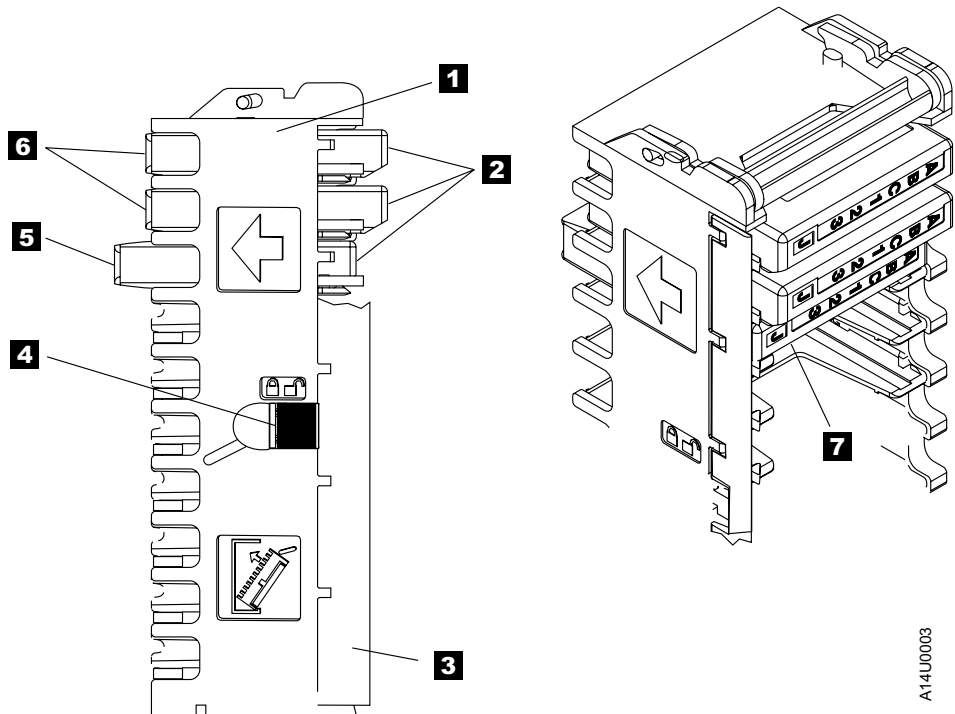

Figure 14. Left View of the 3590 Magazine Cartridge Positions
The magazine has two cartridge storage positions as shown in Figure 14 on page 52. They are the *import* and the *export* positions. A cartridge is in the import position when the cartridge is inserted into the operator side (see item **10**) of the magazine. You must insert the cartridge past the first detent, thus allowing the cartridge to stop on the second detent. This procedure places the leader block end of the cartridge closest to the machine side (see item **4**) of the magazine.
Figure 14 shows a partially loaded magazine. The magazine (see item **1**) includes two cartridge positions.
3. Cartridges are inserted into the magazine from the door side (see item **3**) of Figure 14.
Note: The magazine cartridge lock **4** in Figure 14 on page 52 must be in the unlocked position before you insert or remove cartridges from the magazine. The door **3** of the magazine **1** will be damaged if cartridges are moved with the magazine lock in the locked position.
Note: Always engage the magazine lock **4** (Figure 14 on page 52) before you transport a loaded magazine to avoid dropping the cartridges or shifting their position in the magazine.
The magazine has a door (**3** in Figure 14 on page 52) that extends along the entire length of the magazine. The door is located at the front left side of the magazine when viewed from the front. A hand-operated slider is located in the middle of the magazine frame. The two positions for the magazine lock are as follows: